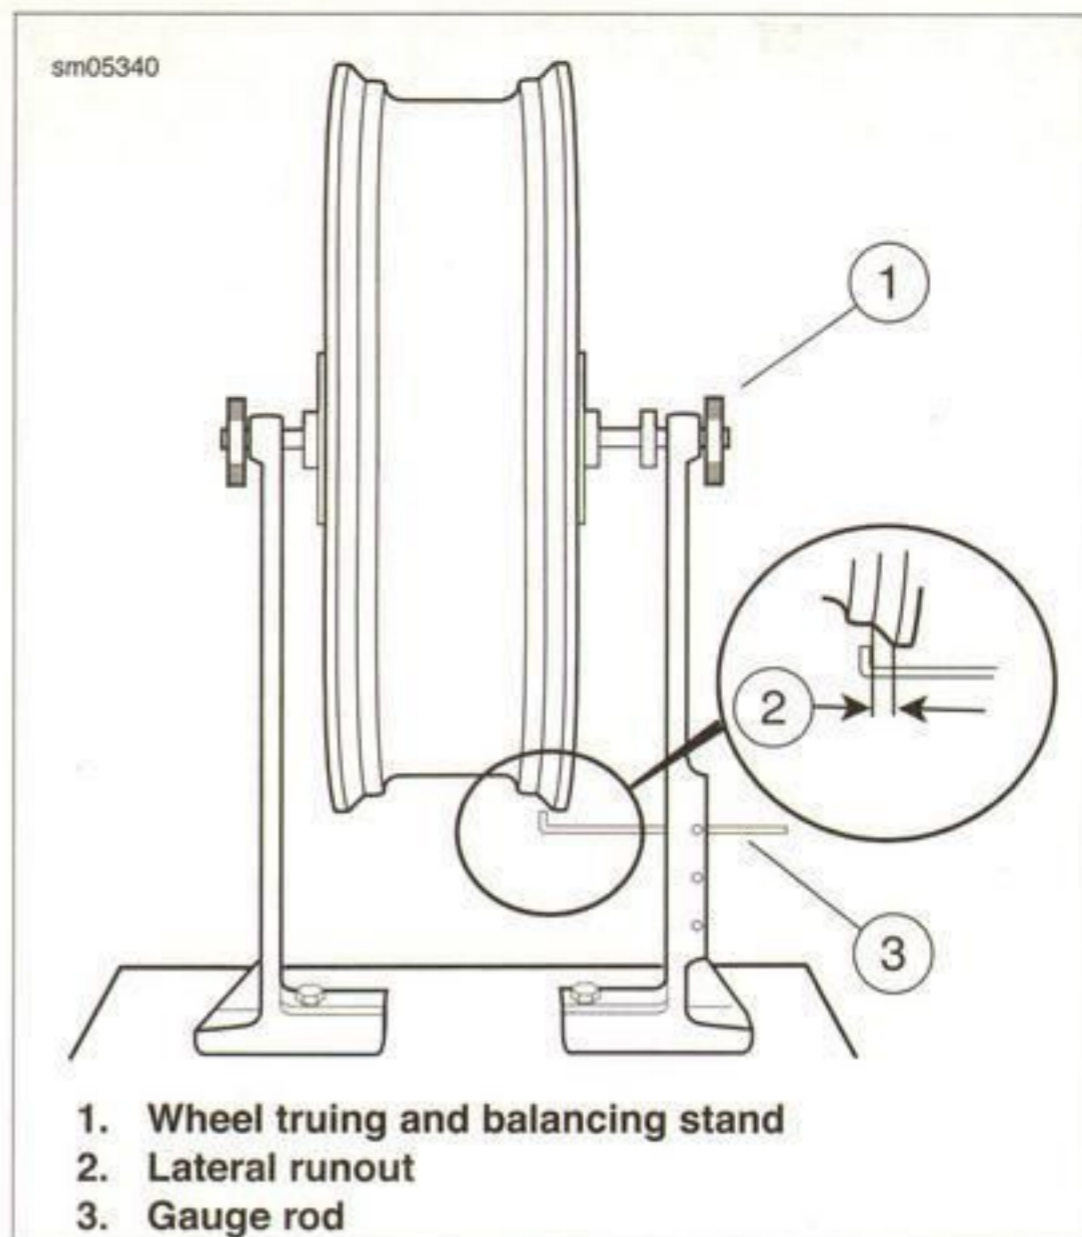

Figure 2-36. Checking Wheel Rim Lateral Runout
1. See Figure 2-36. Install truing arbor in wheel hub and place wheel in the WHEEL TRUING AND BALANCING STAND (Part No. HD-99500-80).